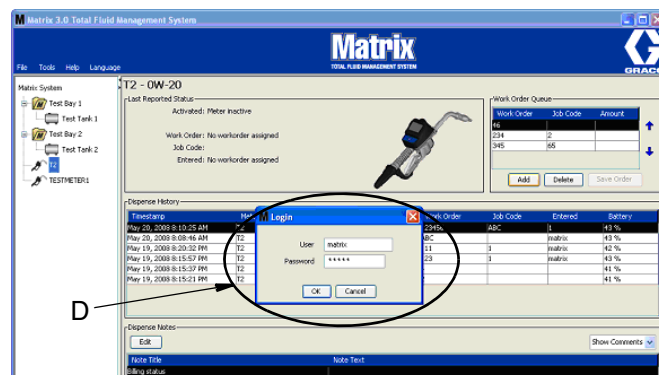

FIG. 228
3. In the pop-up box (D) (FIG. 228) type in your user name and password. Click OK.